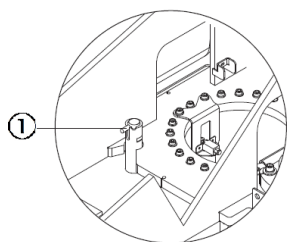

Fig. 10-1 Turntable rotating lock pin
- 6) Ensure that the turntable is secured with the turntable rotary lock before transport, as shown in Figure 10-1. Ensure that the turntable is unlocked during operation.
- 1) The rotary table should be locked with a turntable rotating locking pin each time the machine is transported, as shown in Fig. 10-1.